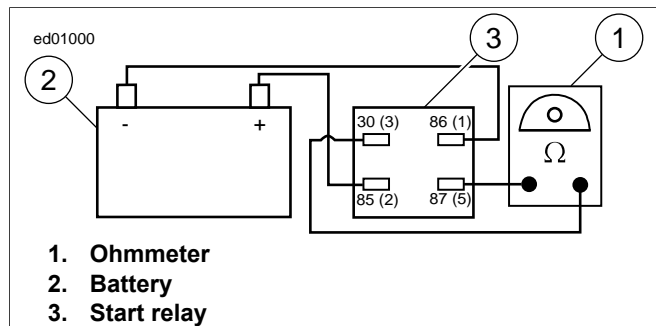
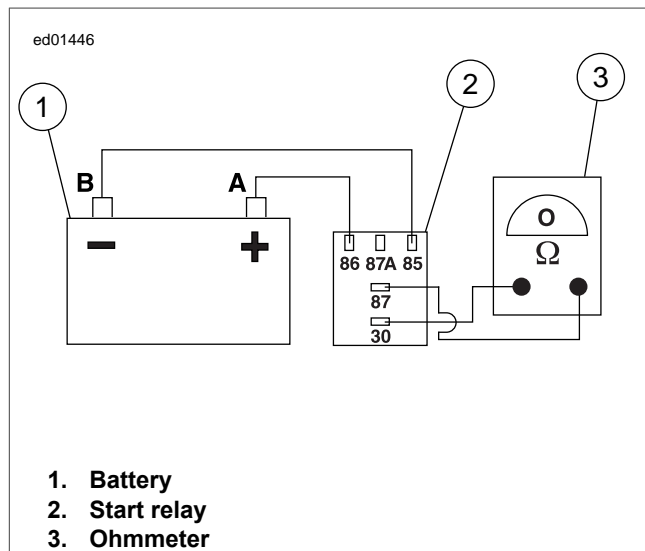

Figure 1-18. Four Terminal Relay Test
Figure 1-19. Five Terminal Relay Test
- See Figure 1-18 and Figure 1-19 to energize the relay. Connect relay terminal 85 to negative battery terminal and relay terminal 86 to positive battery terminal.